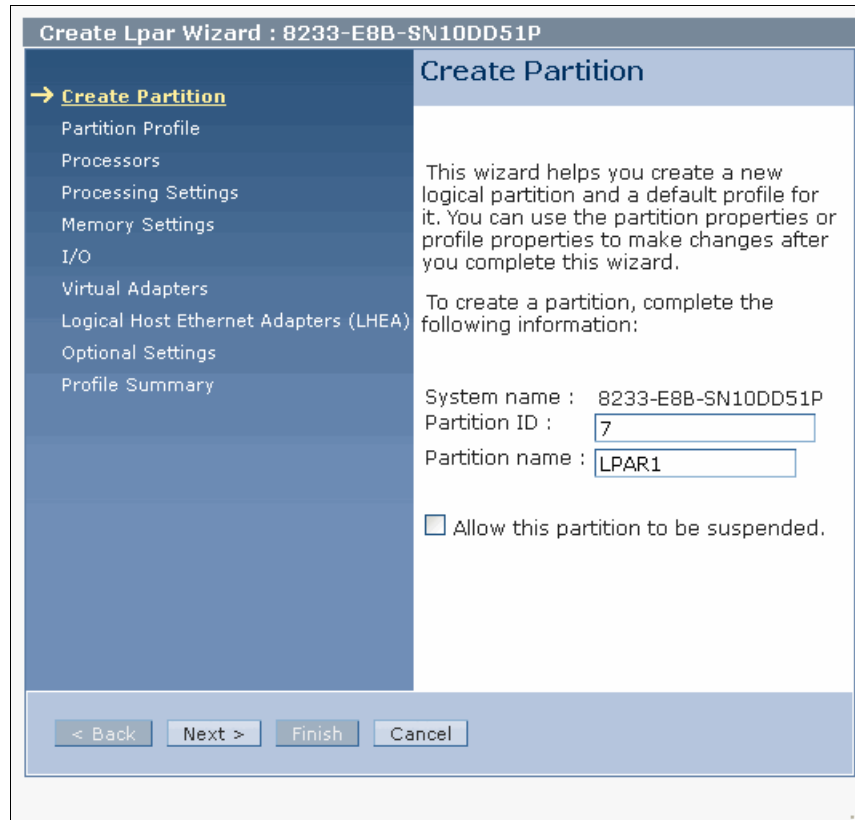

Figure 4-25 Create Partition panel
4. You can set **Partition ID** and specify **Partition name**, as shown in Figure 4-25. If you want the partition to be suspended, check the **Allow this partition to be suspended** box. Then, click **Next**.